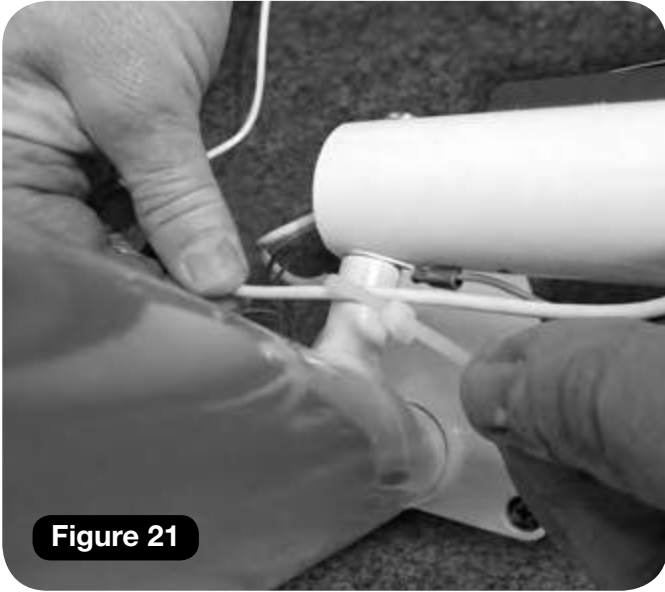

Figure 21
- g** Pull the power supply cable tight at the rear of the rail section. Using a cable tie, attached the power supply cable to the stanchion lug **(Figure 21)**.